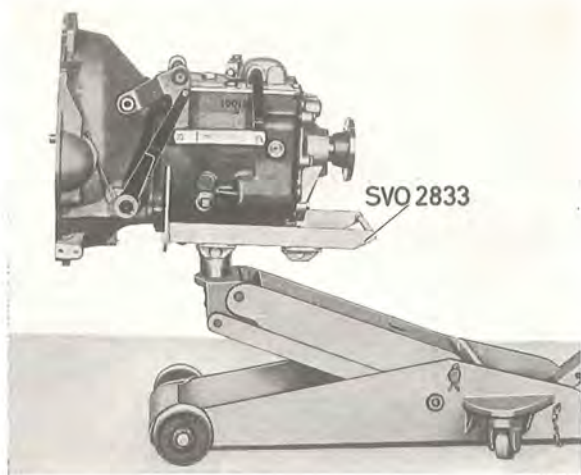

Fig. 4-17. Fixture for removing gearbox
- SVO 2833 Fixture for gearbox. Used on garage jack when removing and fitting gearbox, see Fig. 4-17
6. Replace the lifting plate on the jack with fixture SVO 2833. The pin in the fixture should then be located in its front position for gearbox M 400 and in the rear position for the M 410 gearbox. Support the gearbox with the fixture. Slacken the bolts in the clutch casing. Pull the gearbox rearwards and then lower it, see Fig. 4-17.